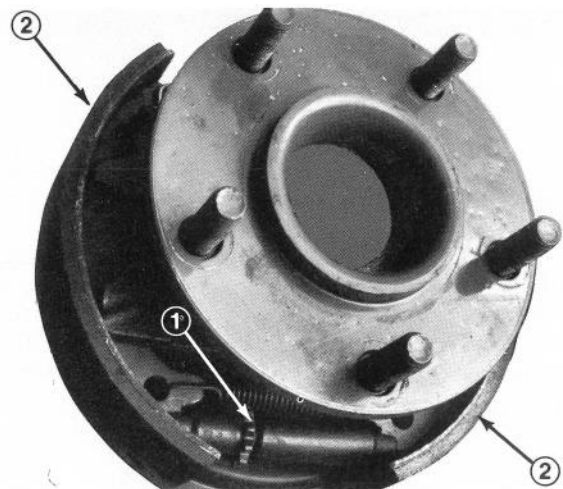

Figure 59
6. Using a brake adjusting tool or screwdriver, rotate star nut (Fig. 58) down until brake drum (Fig. 59) locks because of outward pressure of brake shoes (Fig. 59).